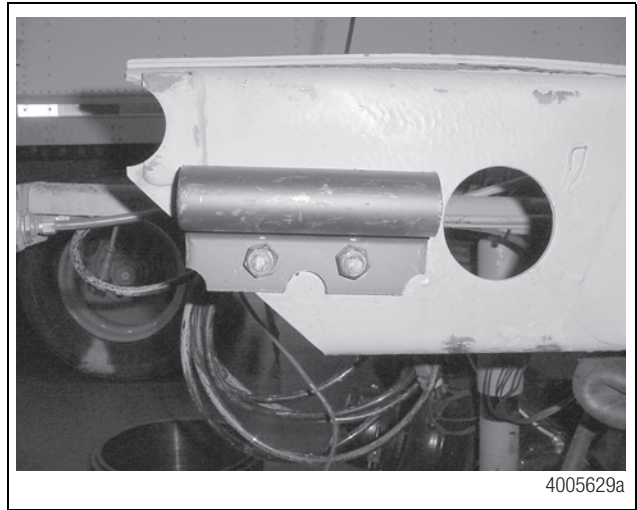
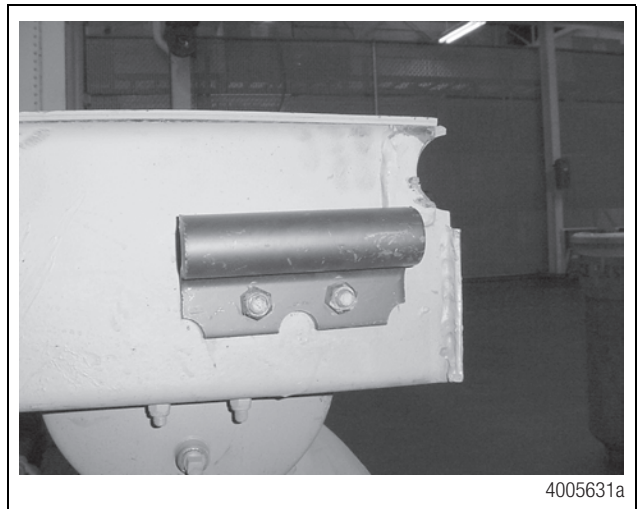

**Figure 39**
**Figure 40**
- Position and weld the enhancement plates between cross members three and four. Refer to Figure 39 and Figure 40.